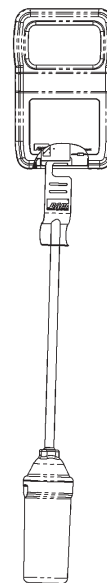

Fig. 33: Probe Clip Hanger used on a room sensor
- Room Sensor measurement is done by holding the Blü-Test probe directly under the sensor enclosure for 3 minutes or until the reading stabilizes. Body heat or breathing on the sensor is a major source of faulty readings, so holding the Blü-Test plastic at the button end and standing away from the sensor is the best way to ensure a good measurement. The Probe Clip Hanger accessory (BA/PCH-1) makes this easier by holding the probe for you (Fig 33).